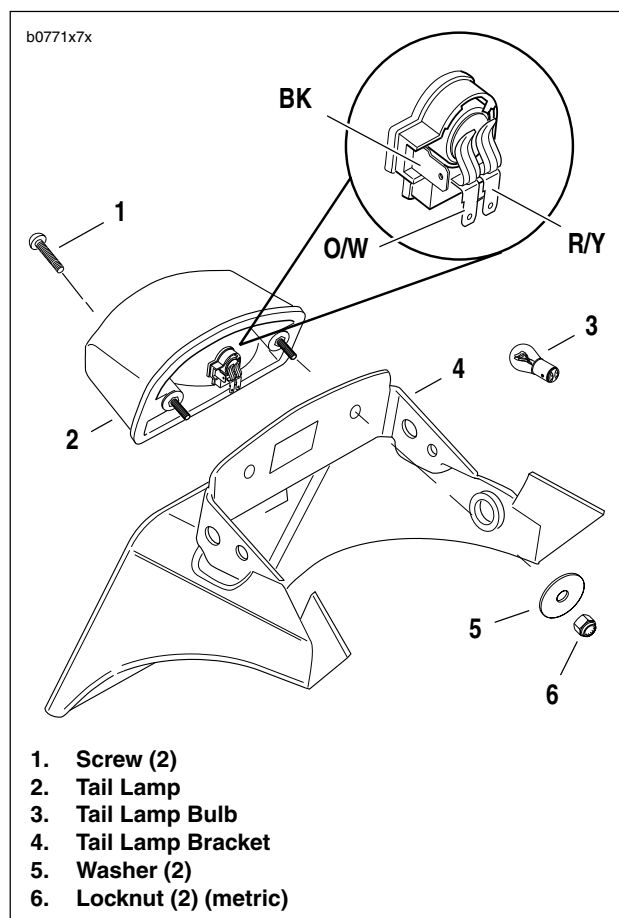

Figure 7-41. Tail Lamp
3. See Figure 7-41. Remove two locknuts (6) (metric) and washers (5) from within trunk.
1. See Figure 7-41. Attach the three tail lamp wires.
2. Install tail lamp using two locknuts (6) (metric) and washers (5).
3. If removed, install tail lamp bulb (3).
- b. Install tail lamp lens with two screws (1).